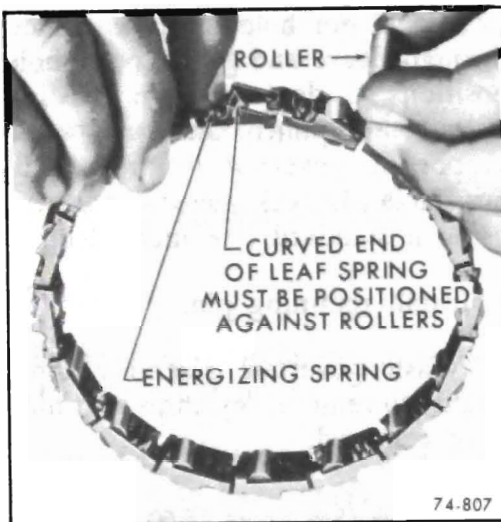

Figure 76-596
18. Install rollers in roller clutch cage, by compressing energizing spring with forefinger and inserting roller from outer side. See Figure 76-596.